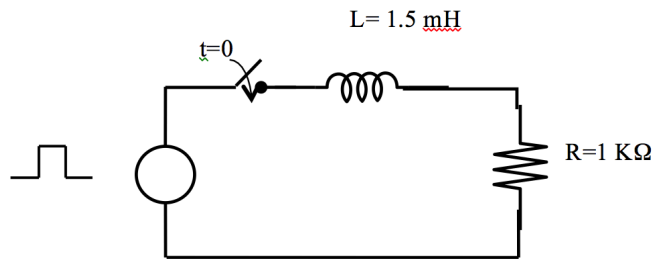

Fig. L2.5 A simple RL circuit
In this part, you will construct a circuit based on Figure L2.5 to understand the step response of an RL circuit. Please follow the following steps.
1. Construct the circuit in Fig. L2.5. Generate a square wave as you did in Part II, choose the frequency such that the circuit will reach the steady state in every cycle twice (once for the charging and one for the discharging). What is the frequency you chose?